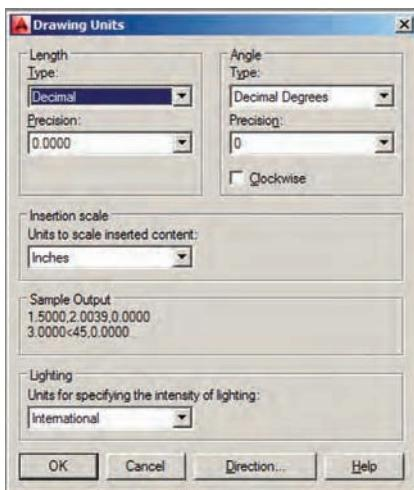

FIGURE 1.18 Setting drawing units
2. Type **UN** and press Enter to bring up the Drawing Units dialog box (see Figure 1.18). UN is the command alias (abbreviation) of the **UNITS** command. Most commands have aliases that minimize typing.